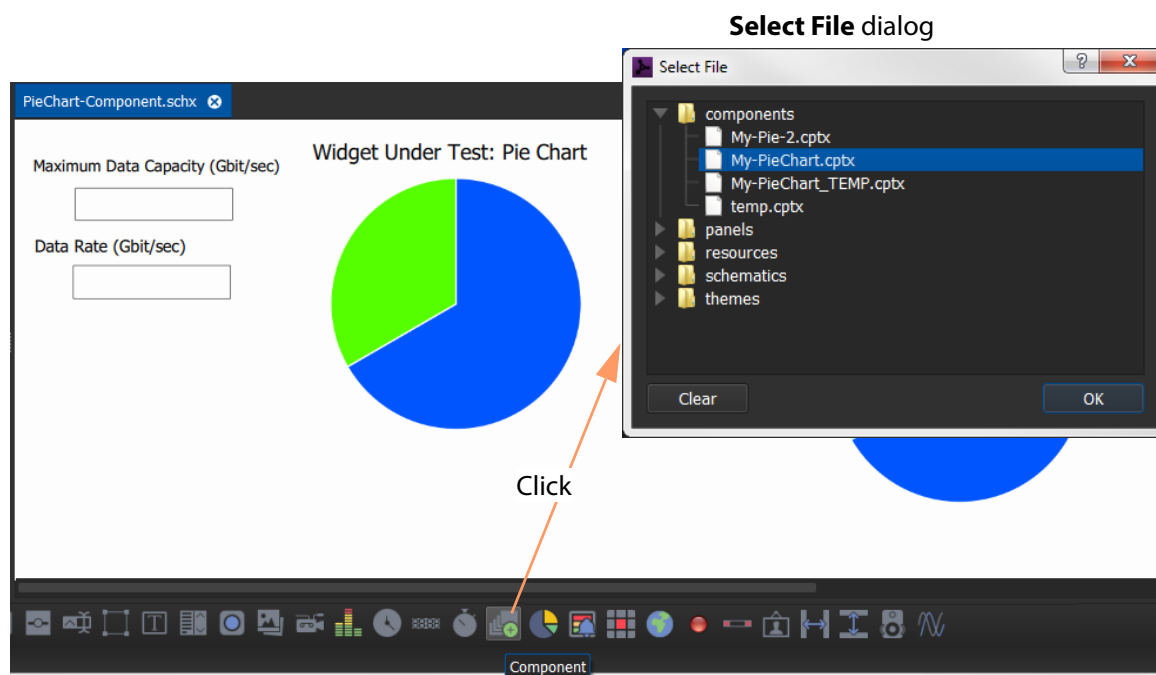

Fig. 4-25: Component Widget Icon
- Click on the Component widget icon (see Figure 4-25), select the required component from the **Select File** dialog, and click **OK**.